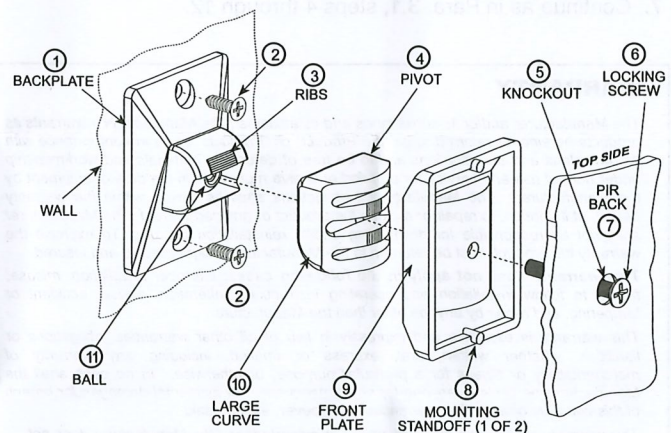

Figure 1. BR-1 - Construction and Assembly
3.1 Installing the BR-1 (Figures 1 & 2)